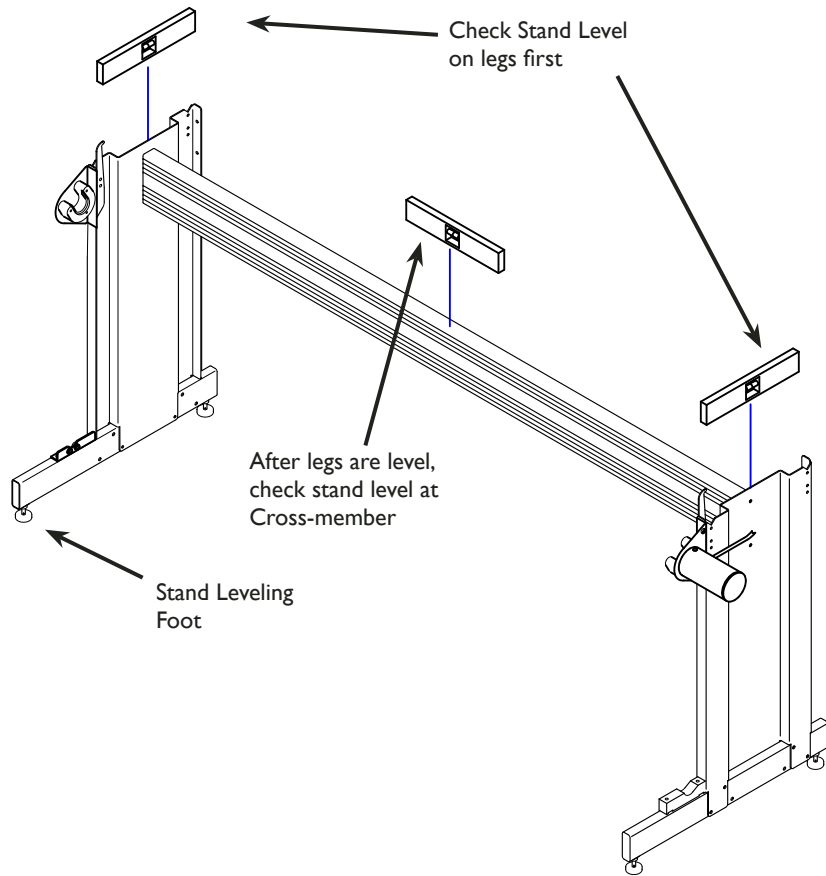

Figure 8. Placement of the level on the stand. (As shown on the FJ model.)
1. Use the wrench to loosen the $\frac{9}{16}$ -in lock nut on both of the right leg leveling feet, turning them counter-clockwise. Place a level across the top of the right stand leg. (See **Figure 8**.)